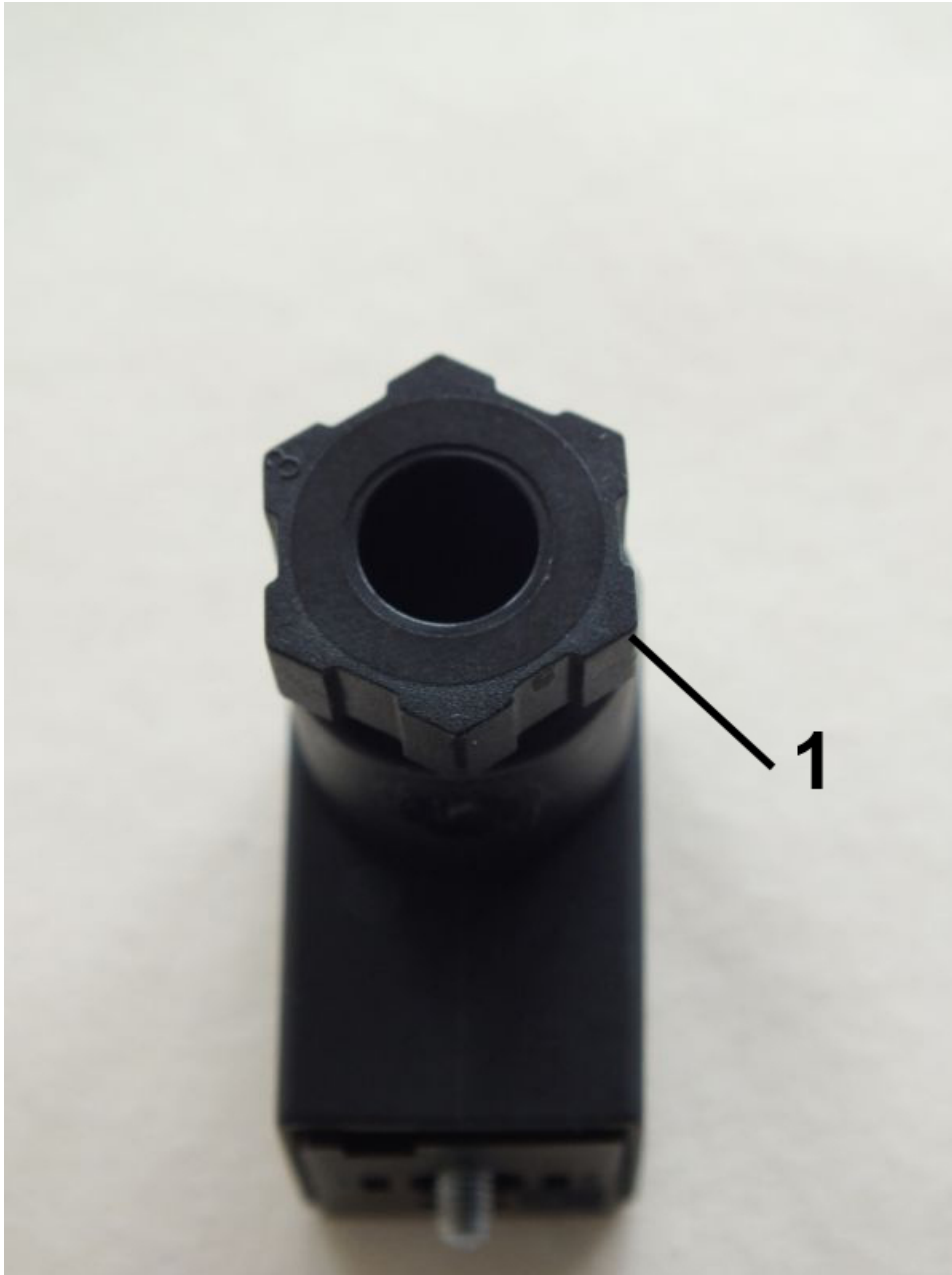

Fig. 25: Loosen the screw connection
- 4.** ➤ Unscrew the screw connection (*Fig. 25/1*) by turning in the direction of the arrow
- 8.** ➤ Retighten the screw connection (*Fig. 25/1*) by turning it to the right until tight